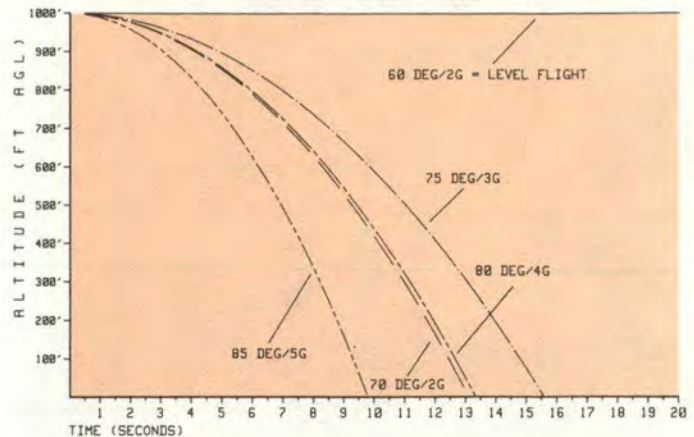

Figure 2
$d = 16.1 (G \text{ multiplied by the cosine bank angle minus } 1) t^2$, where $G = G$ on aircraft, and $t =$ time in seconds. Figures 2, 3, and 4 are based strictly on this formula; they make no allowance for changes in velocity vector.
■ If a turn is unmonitored, it is very easy to overbank. Whereas 2 Gs will hold a level 60-degree bank, if you inadvertently overbank to 70 degrees while holding only 2 Gs, Figure 2 shows you will lose 200' in less than 6.3 seconds. If you inadvertently overbanked to 80 degrees while holding 4 Gs (sufficient to hold only 75 degrees) you'd lose 200' in under 6.4 seconds.